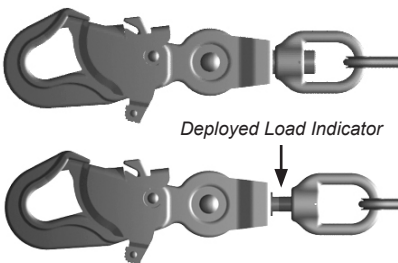
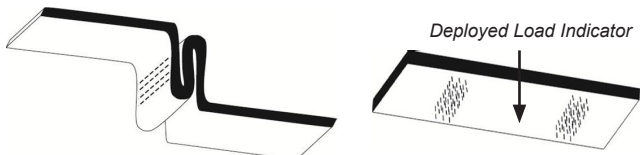

Figure 11
Figure 13
- 1) Prior to each use, the worker must inspect the Skyloc™ Self-Retracting Lifeline for any physical damage, wear, corrosion, or malfunctioning parts. Verify that the load indicator is not visible by looking to see if the red slide bearing under the swivel eye on the anchor point or snaphook is exposed (Figures 11 & 12). Once the load indicator has been deployed, the SRL must be returned to a Reliance Industries approved repair facility for evaluation and recertification. Inspect load indicator webbing on SRL's with web lifelines. Remove from service if stitching is broken and/or "Remove From Service" label is visible (Figure 13).